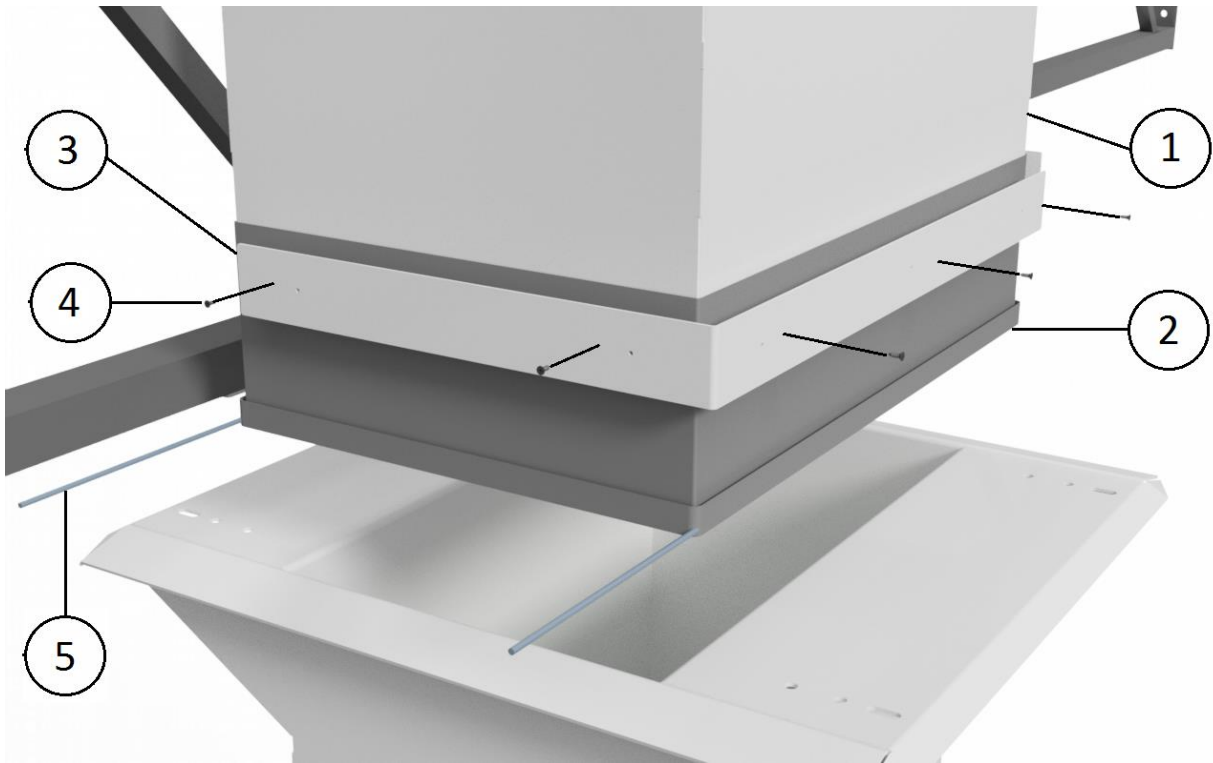
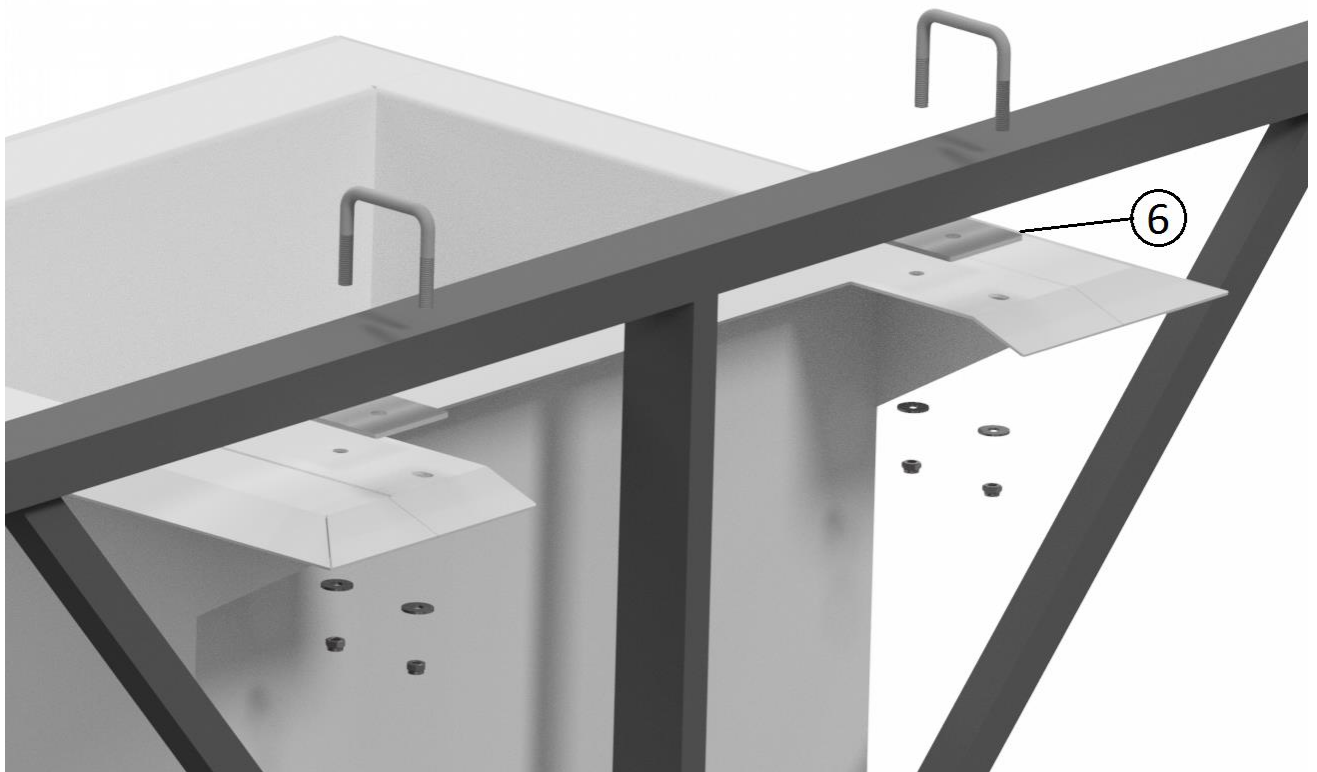

Figure 9 Attaching the spacer
Figure 10 Attaching the spacer
- 2x clamping strips (3);
- 1x cuff (2);
- 10x self-tapping screws (4);
- 2x 3mm padding strips aluminum (6)
- 2x stainless steel shaft L=540 mm (∅ 4mm) (5)
- Assembly (see Figure 9 and Figure 10);
- Slide the cuff (2) over the spacer (1) and place the spacer next to the upper bar of the truss lattice aligned with the opening atop of the aluminum Airmix housing;
- Attach the spacer to the upper truss lattice with two clamps, four M8 body work rings, four M8 lock nuts and two aluminum padding strips (6) (as shown in Figure 10);
- Use the padding strip (6) between the truss lattice bar and the Airmix housing to create an opening of 3mm for the screen support wires;
- Attach the cuff to the spacer using two clamping strips (3) and self-locking screws (4)
- Slide two pieces of stainless steel shaft (∅ 4mm) (5) into the cuff (2) for increased strength and stability;